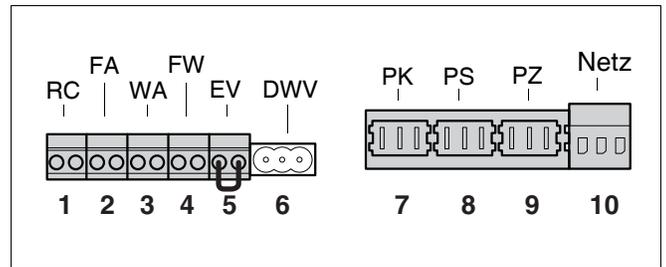

Fig. 31 External connection board connections
- Connect a Room- or Cascade controller to the orange RC terminal (fig. 31). See also paragraph 7.1.4.
- Connect the outdoor temperature sensor to the blue FA terminal (fig. 31).
- Connect the potential-free heat demand contact (On/Off thermostat) or relay panel end switch to the green WA terminal (fig. 31). The maximum allowed resistance of this circuit is 100 ohms.
- Remove the cable from the EV terminal (fig. 31).
- Connect the external switch contact to the red EV terminal (fig. 31).